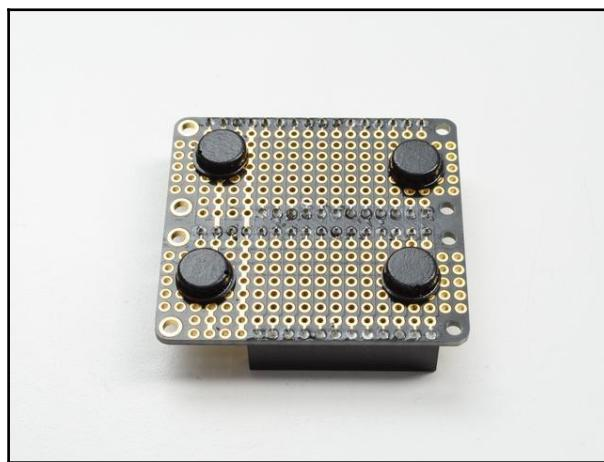

Figure 5.4: Sticking the bumper feet <https://learn.adafruit.com/assets/29484>. Image courtesy of Adafruit Industries (<https://www.adafruit.com/>)
1. Stick four bumper feet near the corners of the FeatherWing Doubler, but don't cover up any of the mounting holes (*Figure 5.4*):